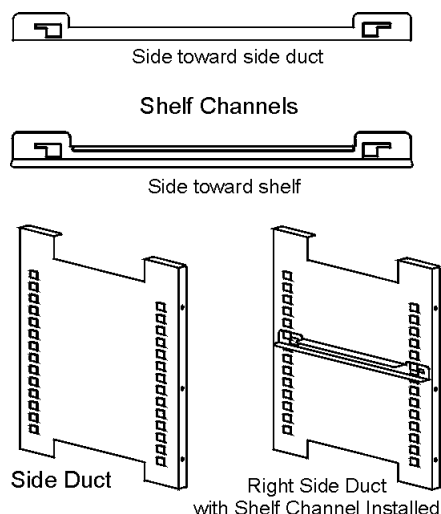

Figure 1-7
1. Install the large sheet metal shelf supports with the tabs facing into the center of the chamber with their slots up. There are no right side or left side supports, simply turn one of them to fit the opposite side. Tilt the shelf supports as they are placed in the chamber so the tops fit into the top air duct, then guide them into the vertical position. Figure 1-7 shows the support as it would be oriented for the right side of the chamber.
2. Referring to Figure 1-7, note that there is no difference in the left side and right side shelf channels.